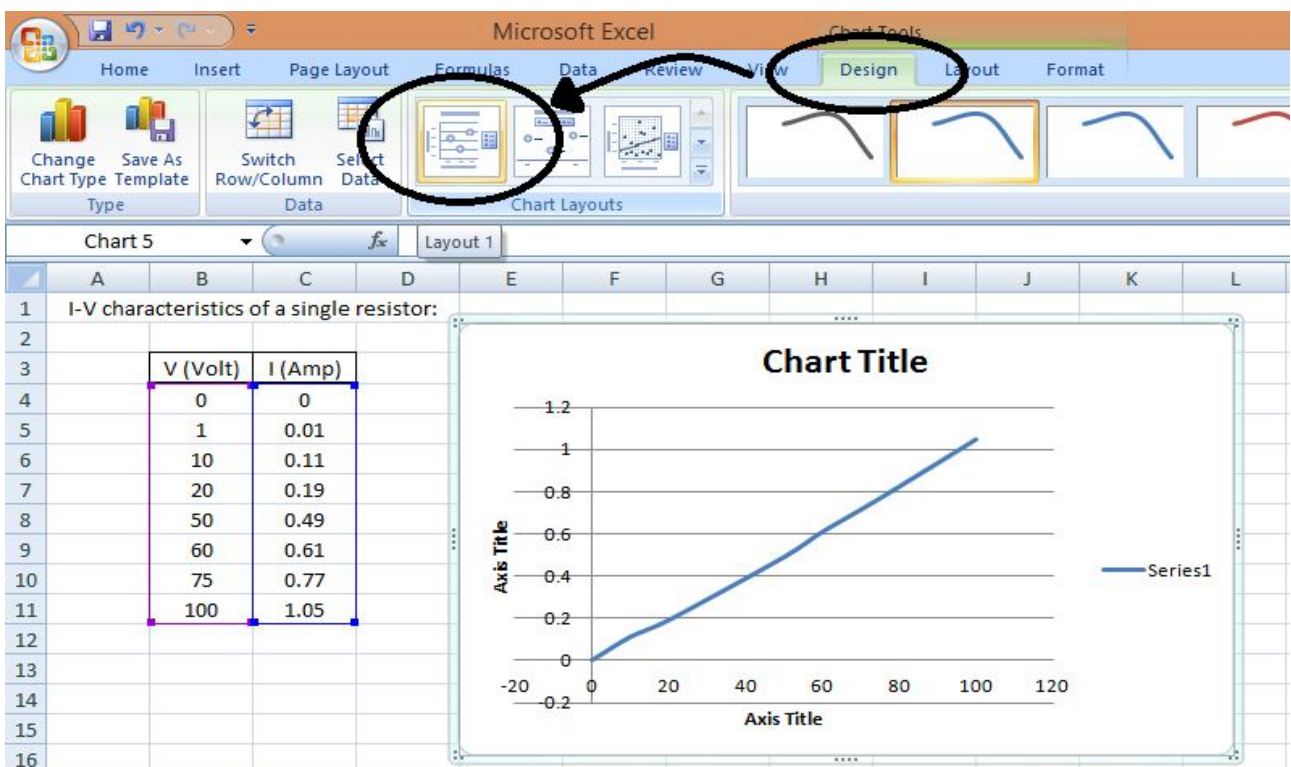

Figure 5
5. The graph is not yet complete, because it still misses the key identifiers like graph title, x- and y- axes labels. To add these, left-click on the graph area and then click on “design” option in the tool bar, then select “layout-1”. Refer Figure 5.